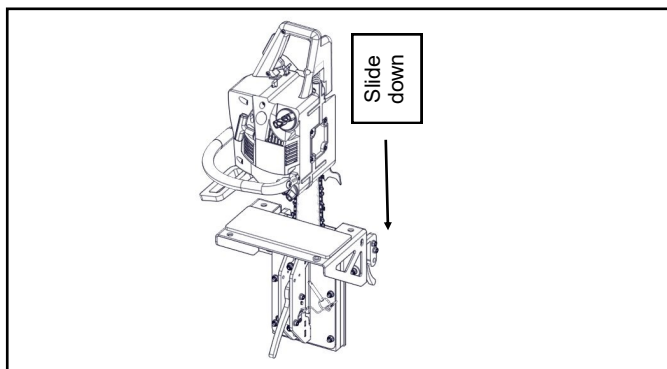

Fig. 5 (installing chainsaw, slide chainsaw into place)
3. Slide the chainsaw into the mount, per fig. 5.